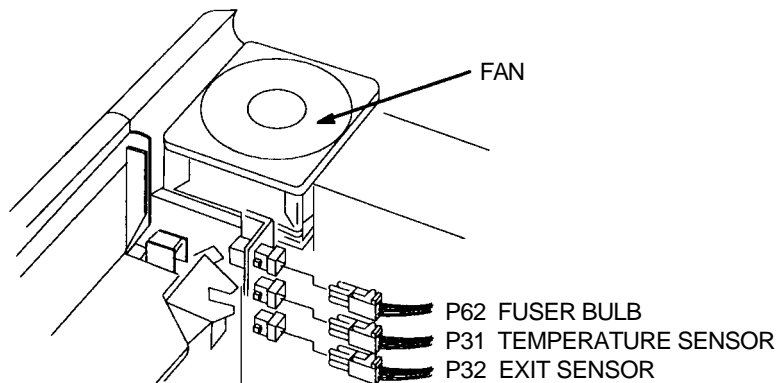

FIGURE 4-21. FUSER UNIT HARNESS REMOVAL
4. Plug the three connectors from the fuser unit wires into the connectors under the fan. See Figure 4-21.